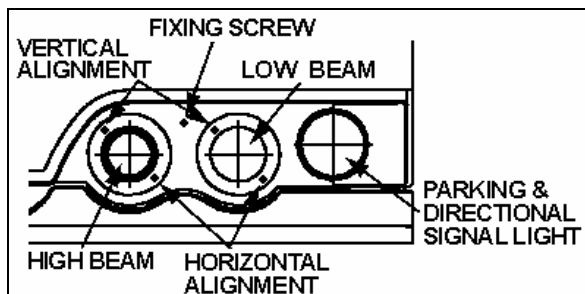

FIGURE 22: HEADLIGHT ASSEMBLY
Headlight aim should be checked after installing a new bulb. Aiming can be performed without opening headlight assembly. Horizontal and vertical aiming of each module is provided by two adjusting screws that pivot the module in the housing for proper alignment (fig. 22). There is no adjustment for focus since the module is set for proper focus during manufacturing assembly.
2. Remove the headlight screw fixing the headlight assembly, then tilt headlight assembly down (Fig. 22 and 23).